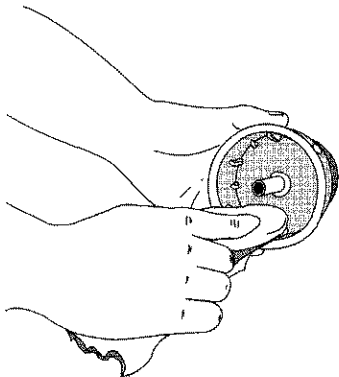

Fig. 16
4. Use a clean cloth to clean the the inner reel, spring, shaft, and inner surface of the outer spool (Fig. 16).